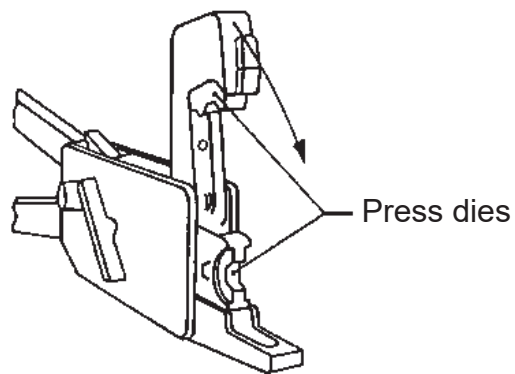

Fig. 1
2. Open the jaws and position the dies into the tool head and close the jaws. See fig 1, page 6. Make sure the selection of dies is correct - shall correspond with the imprinted number on the Elpress' terminal or connector barrel.